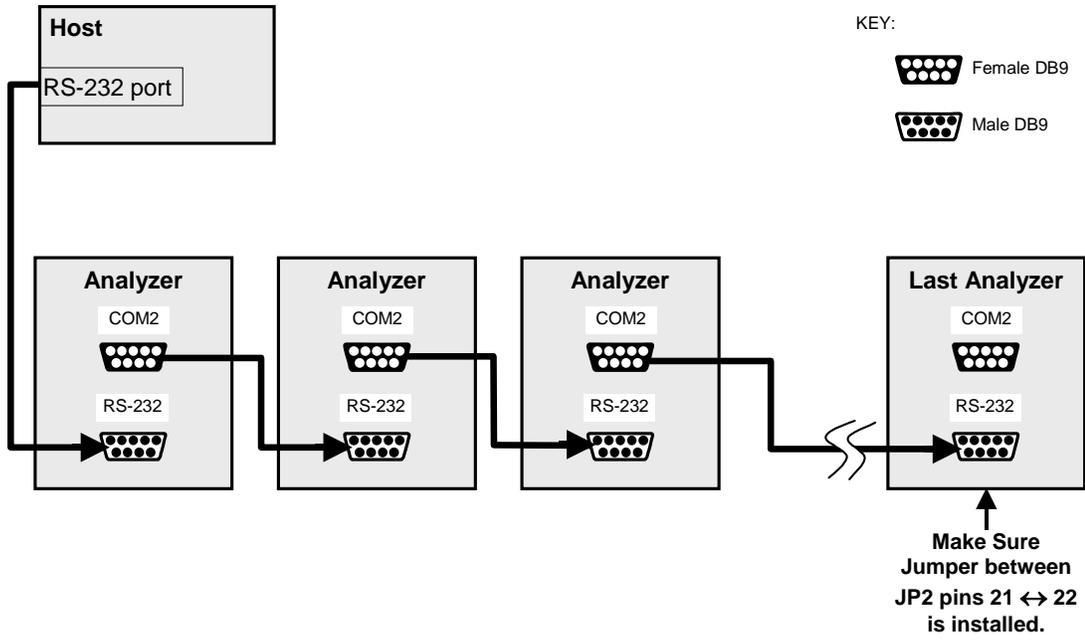

Figure 6-13: RS232-Multidrop PCA Host/Analyzer Interconnect Diagram
7. Using straight-through, DB9 male → DB9 Female cables, interconnect the host and the analyzers as shown in Figure 6-13.